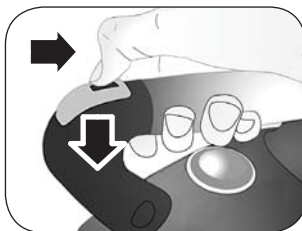

Fig. 6
- 1 Turn the steam adjustment knob (K) to MAX.
- 2 Set the ironing temperature by turning the adjustment knob (F) past the symbol (•••).
- 3 Wait for the indicator lamp (C) of the iron to turn off.
- 4 Wait for the steam ready light (M) to turn on.
- 5 Press the steam button (D). Move the cursor (E) towards the handle (Fig 6). The cursor (E) will lock the button, making the jet of steam exit continuously and steadily.